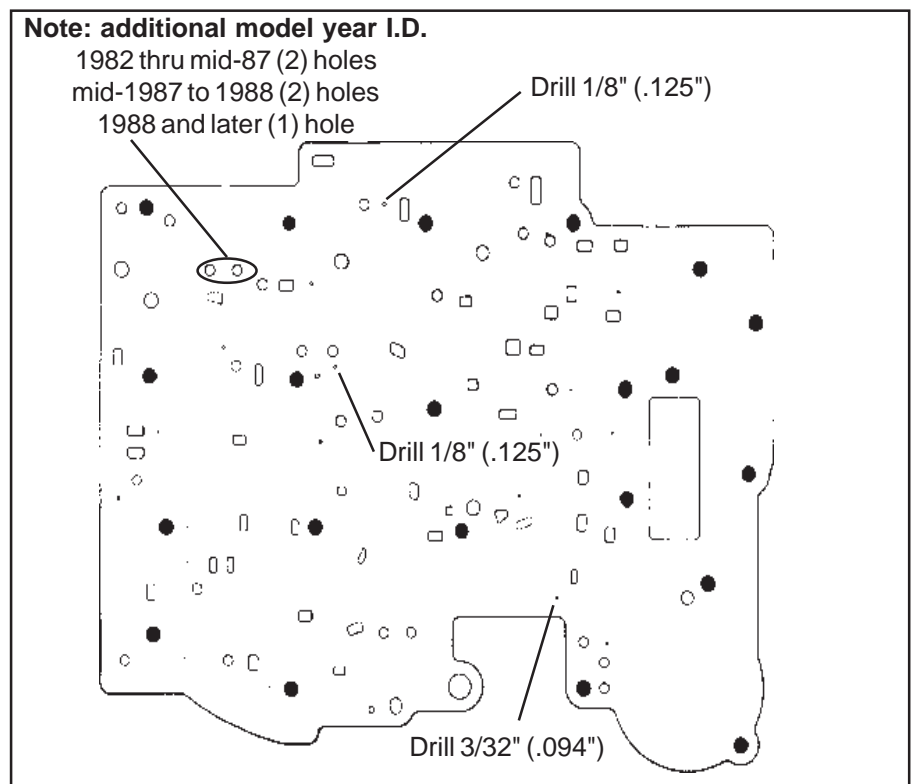

Figure 4
STEP 6. Using the supplied drills, enlarge the holes in your separator plate as indicated in **Fig. 4.** Carefully deburr the holes after drilling.